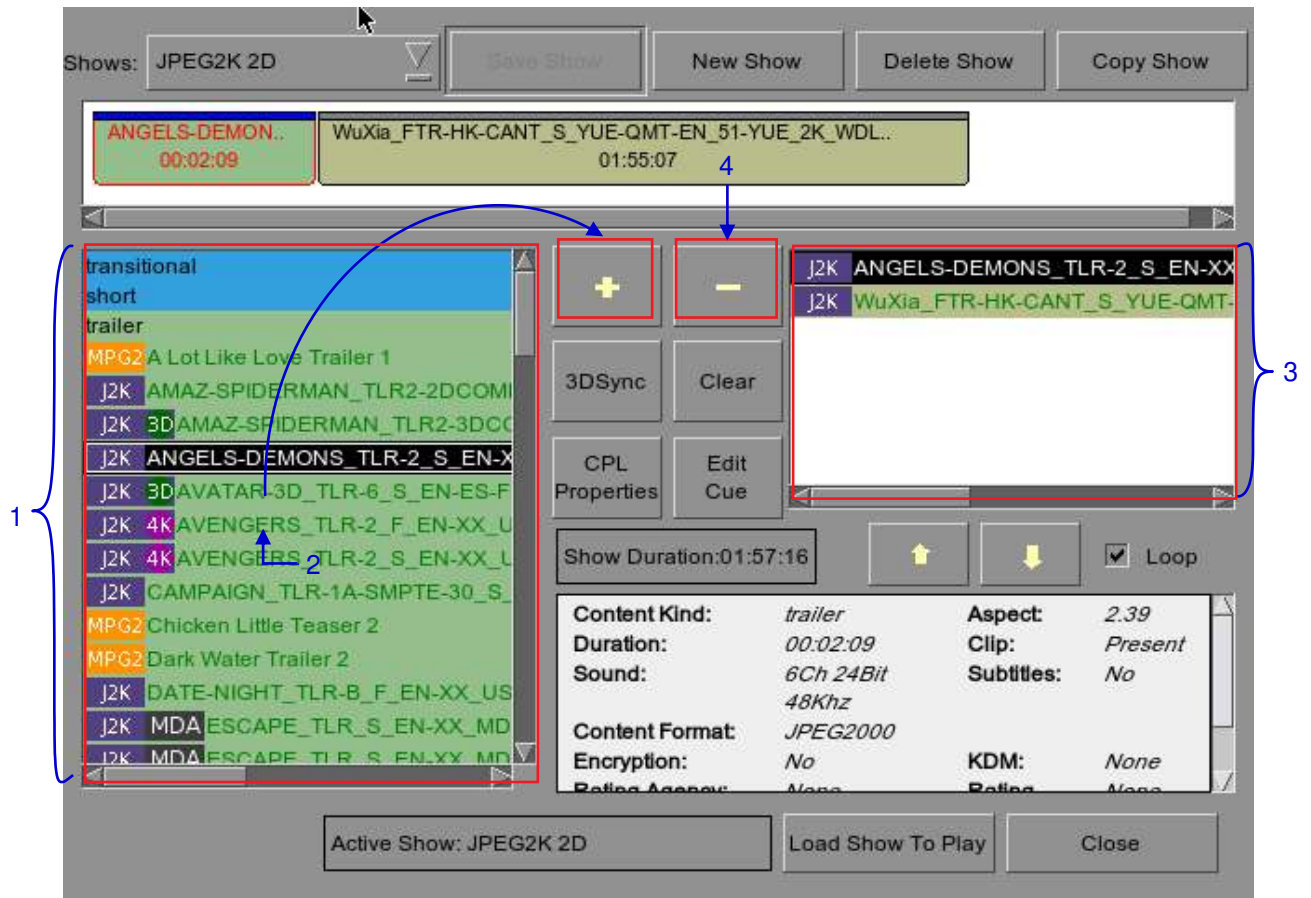

Figure 33 Playlist Management
- 1 On the **SMS** interface, press [☰] to open a **Playlist Management** for creating playlists as seen in **Figure 33** below in **Section 2.4.1.2. Creating a Playlist**.